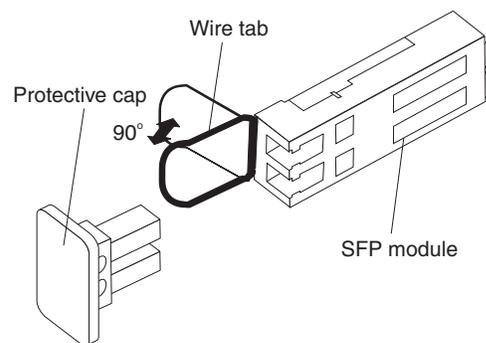

Figure 33. Unlocking the SFP module latch - wire variety
- For SFP modules containing wire tabs, unlock the SFP module latch by pulling the wire latch outward 90°, as shown in Figure 33.